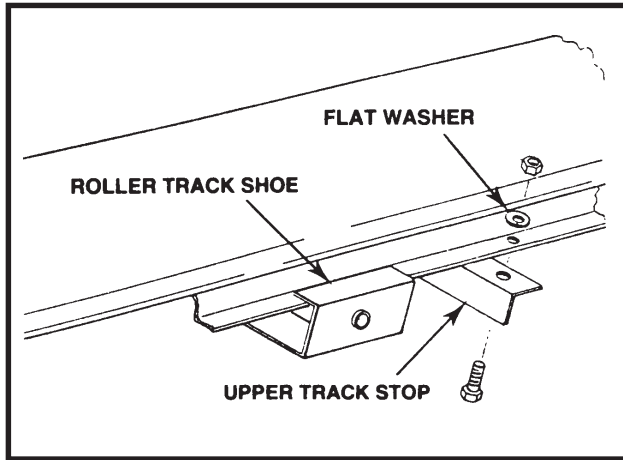

Figure No. 7
2. Attach the upper trackstop to correct position as shown in **Figure No. 7**, using two 7/16" x 1-1/4" bolts, locknuts and heavy flat washers. Make certain the washers are on top of track as shown in **Figure No. 8** and that the trackstop is centered on the track.